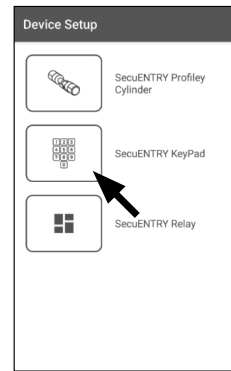

Fig. 8
⑤ Use the selection menu displayed and tap on "*secuENTRY KeyPad*" to setup your *secuENTRY* keypad (Fig. 8).